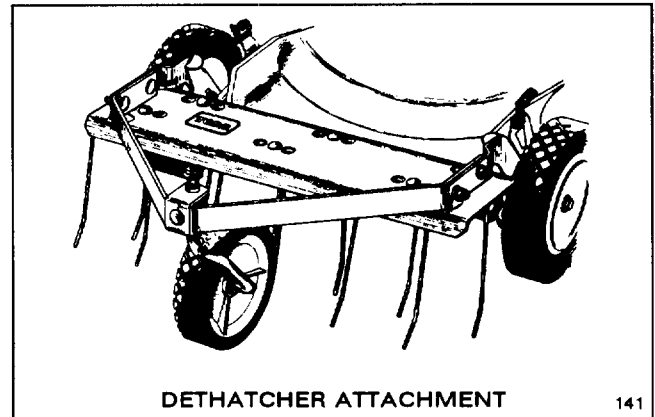

Figure 24
2. Dethatcher Kit, Model No. 59131—As spring tines on the Toro Dethatcher (Fig. 24) scratch and vibrate through the grass, thatch is loosened and cut and recut by the mower.